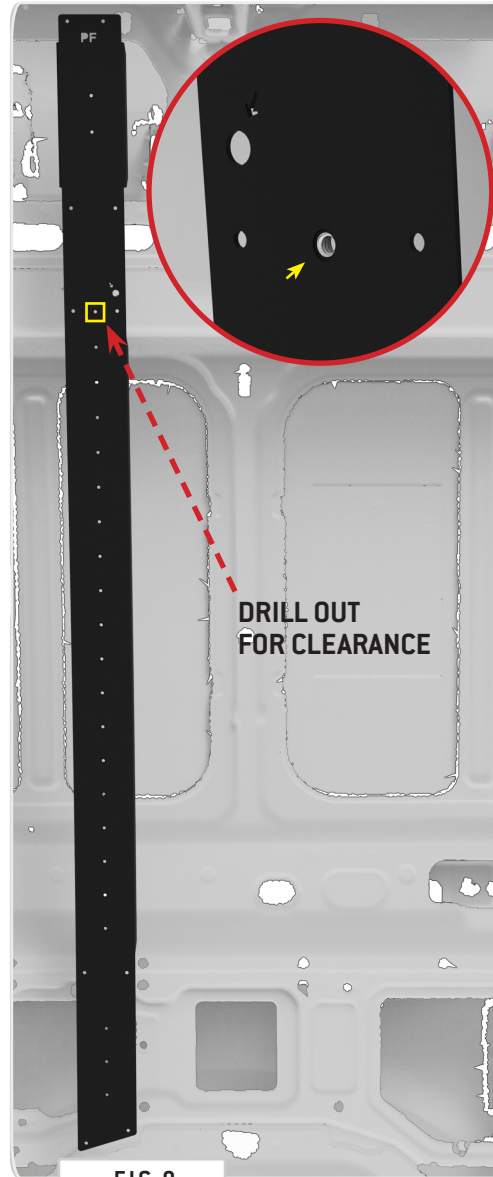

FIG 9
3.5 Mark Holes to Clear Threaded Pem Nuts: Notice the locations highlighted in FIG 9+10. Mark through these threaded holes to drill out for clearance.